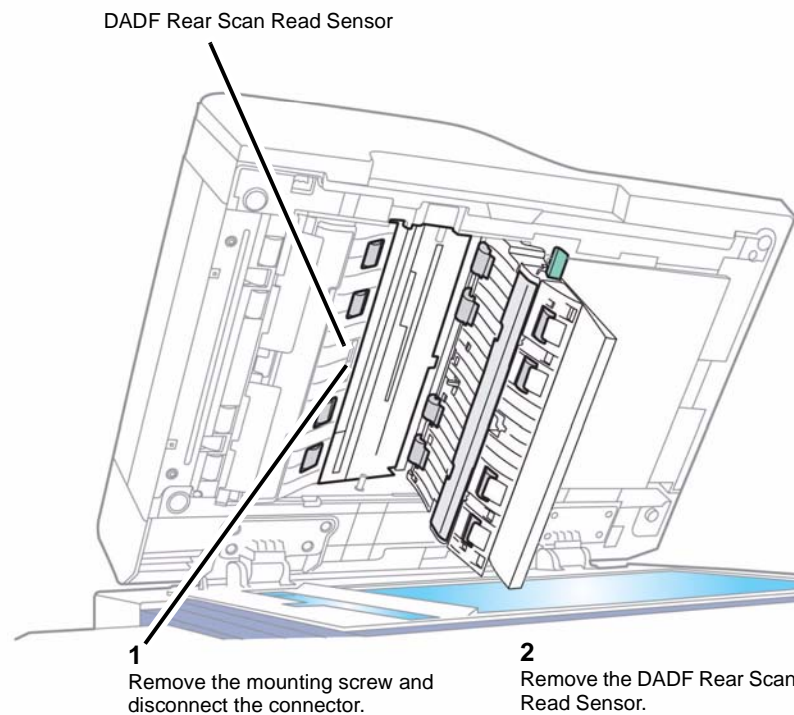

Figure 2 Locating and Removing the DADF Rear Scan Read Sensor
4. Locate and remove the DADF Rear Scan Read Sensor (Figure 2).